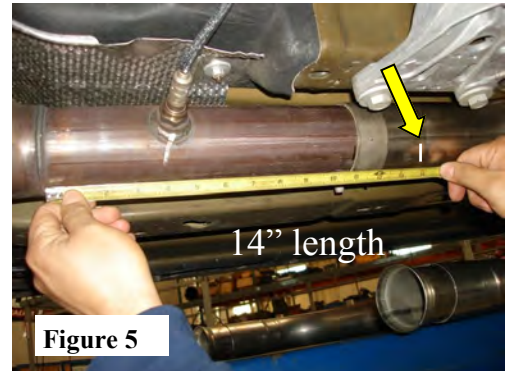

Figure 5
1. **GT500 ONLY:** Measure/mark a line that is 14" from catalytic converter on the factory H-Pipe, both sides. Carefully make a straight cut on each pipe and remove factory H-Pipe. Carefully de-burr edge and remove any metal shavings from the pipes. (See Fig. 5)